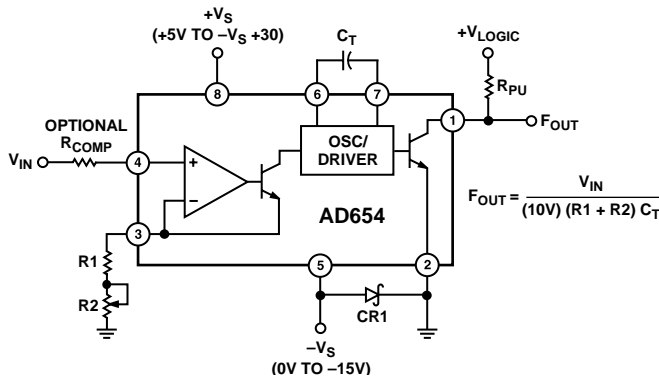
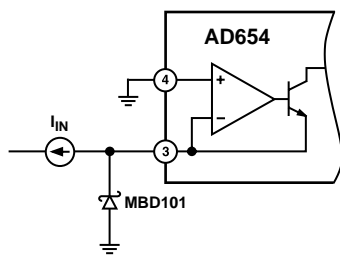

Figure 1. Standard V-F Connection for Positive Input Voltages
Figure 5. Input Protection
The AD654's block diagram appears in Figure 1. A versatile operational amplifier serves as the input stage; its purpose is to convert and scale the input voltage signal to a drive current in the NPN follower. Optimum performance is achieved when, at the full-scale input voltage, a 1 mA drive current is delivered to the current-to-frequency converter (an astable multivibrator). The drive current provides both the bias levels and the charging current to the externally connected timing capacitor. This "adaptive" bias scheme allows the oscillator to provide low nonlinearity over the entire current input range of 100 nA to 2 mA. The square wave oscillator output goes to the output driver which provides a floating base drive to the NPN power transistor. This floating drive allows the logic interface to be referenced to a level other than $-V_S$.
In the connection scheme of Figure 1, the input amplifier presents a very high (250 M Ω) impedance to the input voltage, which is converted into the proper drive current by the scaling resistors at Pin 3. Resistors R1 and R2 are selected to provide a 1 mA full-scale current with enough trim range to accommodate the AD654's 10% FS error and the components' tolerances. Full-scale currents other than 1 mA can be chosen, but linearity will be reduced; 2 mA is the maximum allowable drive. The AD654's positive input voltage range spans from $-V_S$ (ground in sink supply operation) to four volts below the positive supply. Power supply rejection degrades as the input exceeds $(+V_S - 3.75 \text{ V})$ and at $(+V_S - 3.5 \text{ V})$ the output frequency goes to zero.
As indicated by the scaling relationship in Figure 1, a 0.01 μF timing capacitor will give a 10 kHz full-scale frequency, and 0.001 μF will give 100 kHz with a 1 mA drive current. Good V/F linearity requires the use of a capacitor with low dielectric absorption (DA), while the most stable operation over temperature calls for a component having a small tempco. Polystyrene, polypropylene, or Teflon* capacitors are preferred for tempco and dielectric absorption; other types will degrade linearity. The capacitor should be wired very close to the AD654. In Figure 1, Schottky diode CR1 (MBD101) prevents logic common from dropping more than 500 mV below $-V_S$. This diode is not required if $-V_S$ is equal to logic common.
The AD654 was designed to be used with a minimum of additional hardware. However, the successful application of a precision IC involves a good understanding of possible pitfalls and the use of suitable precautions. Thus $+V_{IN}$ and R_T pins should not be driven more than 300 mV below $-V_S$. Likewise, Logic Common should not drop more than 500 mV below $-V_S$. This would cause internal junctions to conduct, possibly damaging the IC. In addition to the diode shown in Figures 1 and 2 protecting Logic Common, a second Schottky diode (MBD101) can protect the AD654's inputs from "below $-V_S$ " inputs as shown in Figure 5. It is also desirable not to drive $+V_{IN}$ and R_T above $+V_S$. In operation, the converter will exhibit a zero output for inputs above $(+V_S - 3.5 \text{ V})$. Also, control currents above 2 mA will increase nonlinearity.